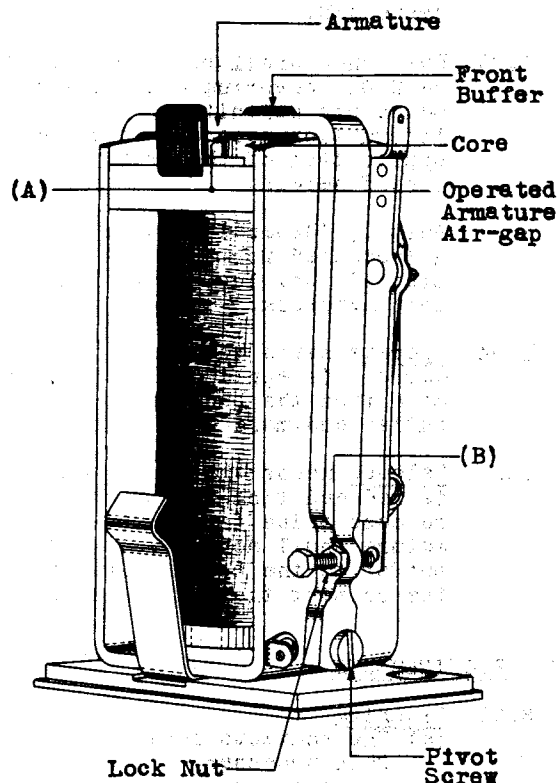

Fig. 4
- 2.10 Operated Armature Air-gap - Fig. 4 (A) - There shall be a clearance between the armature and the core measured at the closest point when the armature is resting against the front buffer of Min. .004" Use the No. 74-D gauge.
- 2.13 Tightness of Lock Nut - Fig. 4 (B) - The lock nut on the contact screw shall be sufficiently tight to hold the screw in the adjusted position. Gauge by feel.